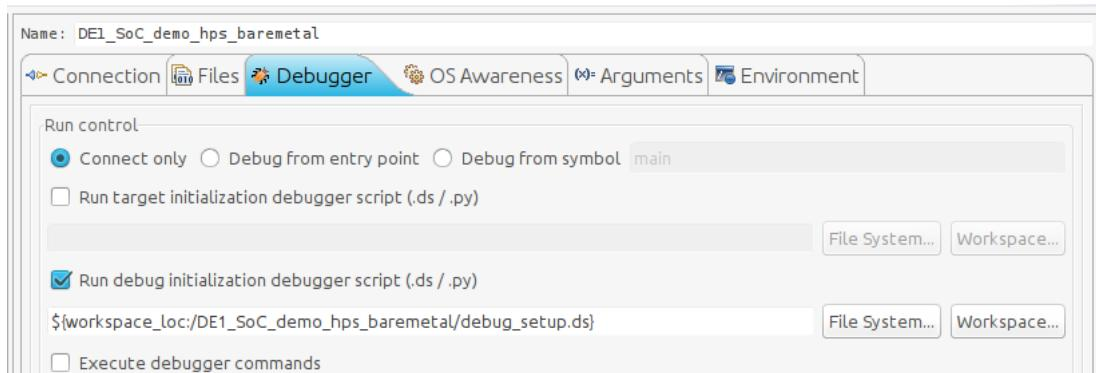

Figure 8-31. Debug Configuration "Debugger" Tab
- b. Enable the “Run **DEBUG** initialization debugger script (.ds / .py)” checkbox. Set the debug script to the one we defined for the project in 8.4.2.1.3.2. You should have something similar to Figure 8-31.